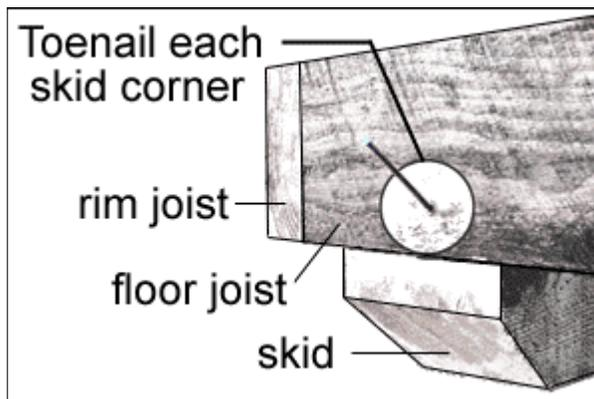

Figure 3
**Step 4.** Tack in joists to the skids on each corner with 2 nails. The flexibility will allow for adjusting the frame. Figure 3.